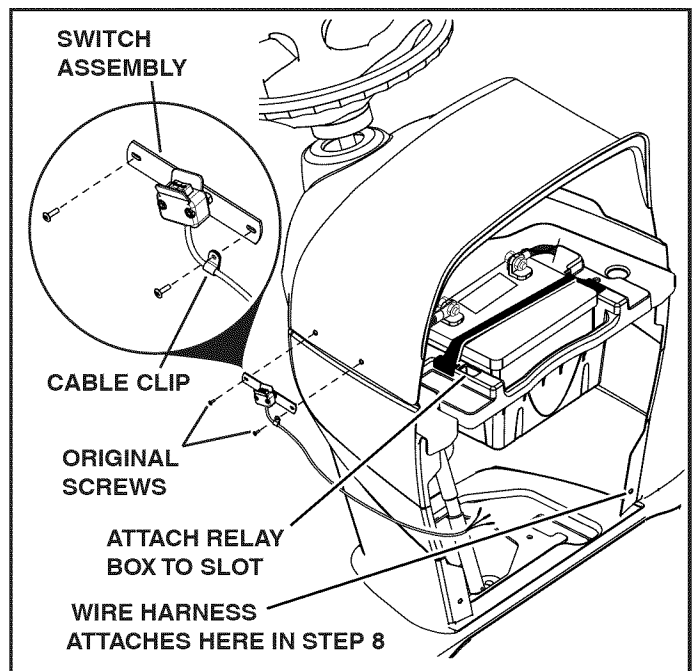

FIGURE 5
### STEP 5: (SEE FIGURE 5)
### STEP 6: (SEE FIGURE 5)
- Attach the wire harness to the bottom of the plastic dash housing using a plastic tie as shown in figure 5.